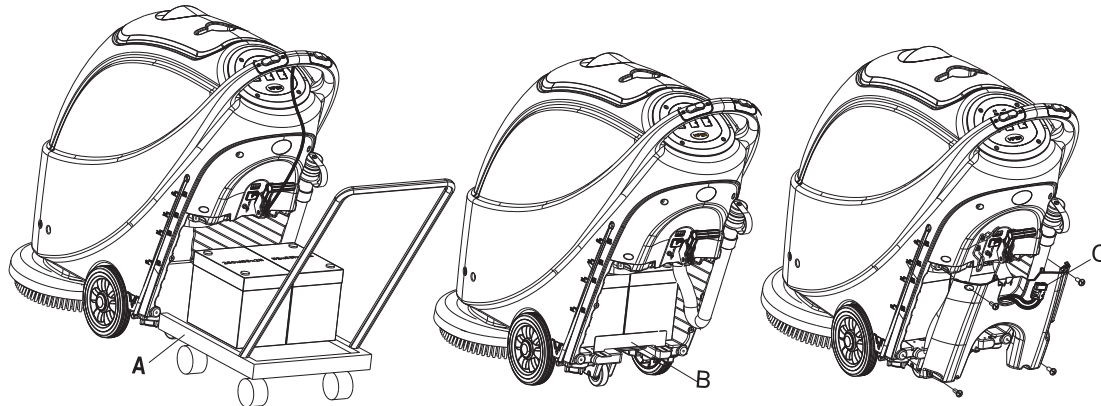

FIGURE 7
14. Install the battery with specially made battery installation tools (A, Figure 7). After the battery is installed, remove the battery installation tools, and install the battery fixation bracket (B, Figure 7).
15. Put the battery connector (C, Figure 7) through the hole on the top of the battery box cover, put the drain hose through the right hole of the battery box cover, attach the battery box cover with 4 screws, and then install the squeegee lift cable, drain hose, and the squeegee successively.